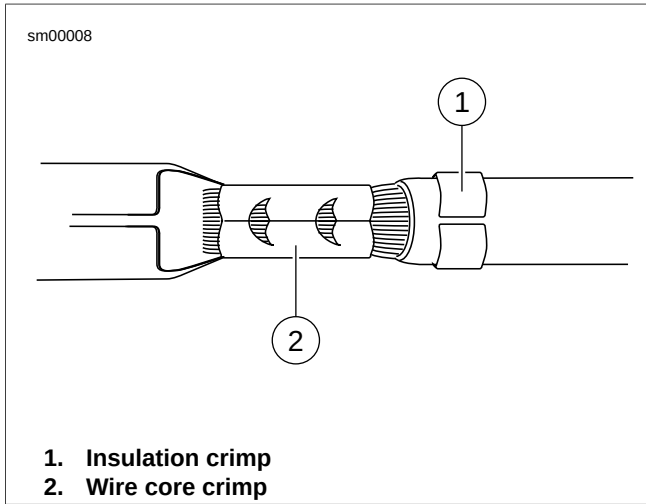

Figure A-9. AMP Multilock Connector: Terminal Crimp
See Figure A-9. Inspect the wire core crimp (2) and insulation crimp (1). Distortion should be minimal.